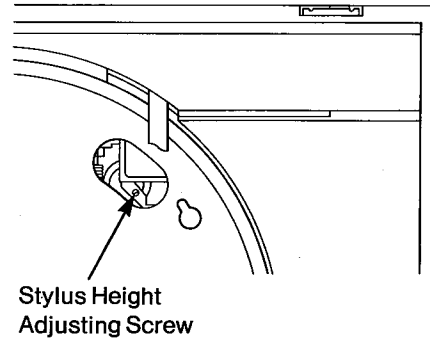

Fig. 4
3. Press \triangleleft button on the control panel to shift the arm to the place where the stylus height adjustment screw can be observed. (Fig. 4)